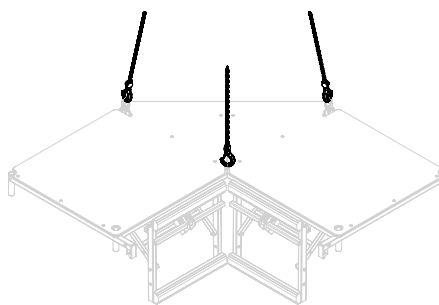

Fig. A9.05
2. Turn over corner platform, attach with 3-sling lifting gear and pull up. (Fig. A9.05/A9.06)